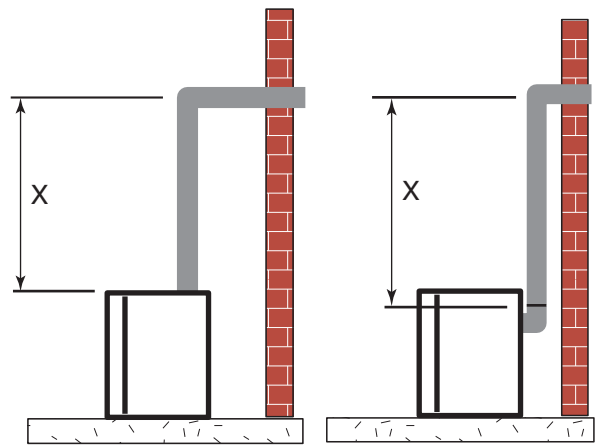

Figure 28 -
Place fireplace into position. Measure the vertical height (X) required from the base of the flue collars to the center of the wall opening. *Figure 28*